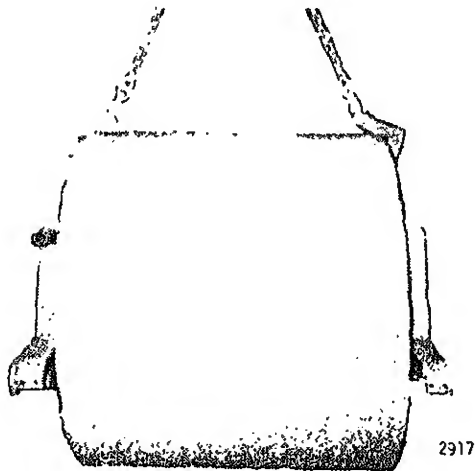

FIGURE 7-90.
c. Lift or roll the drum into the frame. The drum is aligned with the large holes in the frame (see figure 7-90).